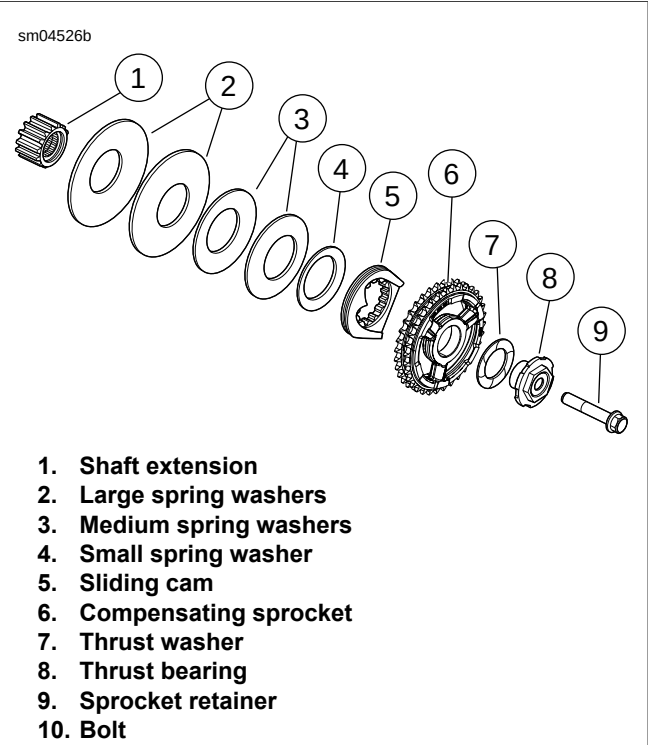

Figure 5-11. Engine Compensating Sprocket Assembly
- See Figure 5-11. Install engine compensating sprocket.
- Apply a thin layer of primary chaincase oil to the inner diameter of the compensating sprocket (6).
- Apply a thin layer of primary chaincase oil to the splines of shaft extension (1).
- Assemble shaft extension, large spring washers (2) and medium spring washers (3).